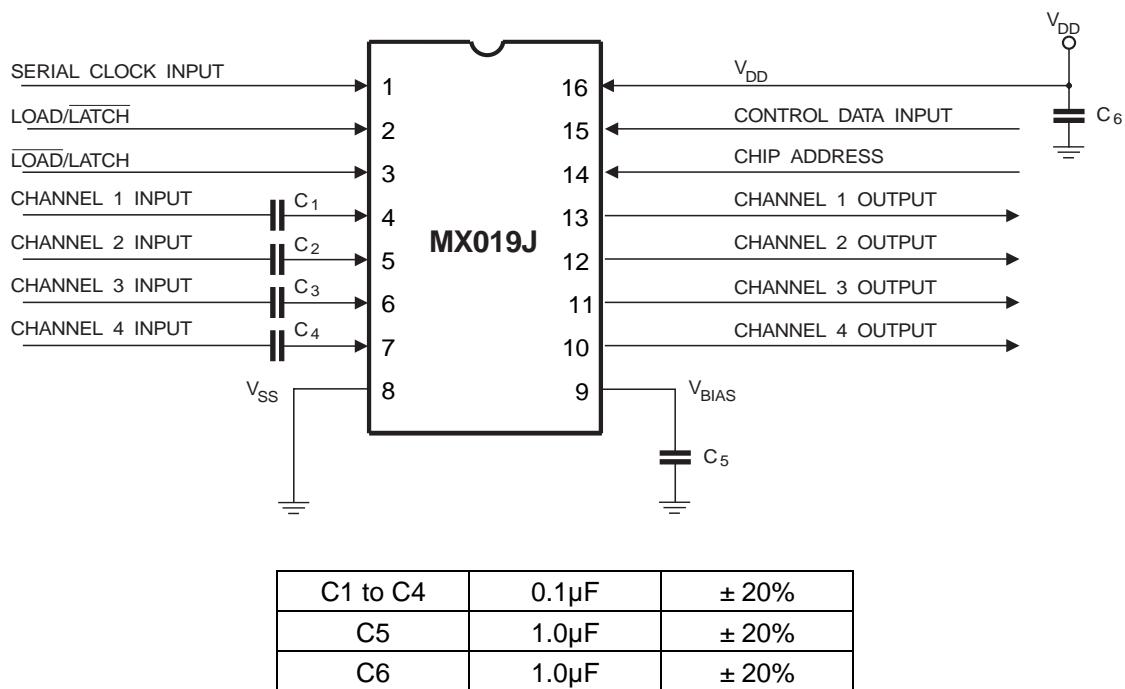

Figure 2: Recommended External Components
| 4         | 5  | Ch1 Input                       | <p style="text-align: center;">Analog Inputs :</p> These individual amplifier inputs are self-biasing; AC input analog signals must be capacitively coupled to these pins, as shown in Figure 2.Note that amplifiers Ch1 to Ch4 are 'inverting amplifiers.'   |
| 9         | 13 | V BIAS               | The output of the on-chip bias circuitry, held at V DD /2. This pin should be decoupled to V SS as shown in Figure 2.  |
3. All external components (Figure 2) should be kept close to the MX019 package.